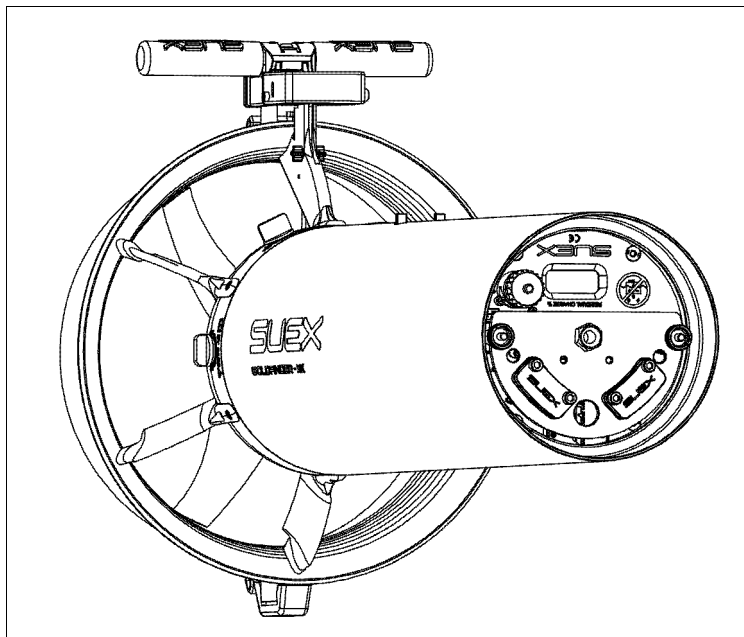

Fig 35 - Correct battery orientation
- thread the battery along the rods respecting their original orientation **Fig 35 - on p. 34**.
- connect the red connector (15)
- position the plate (12),
- screw on the ring nuts (11),